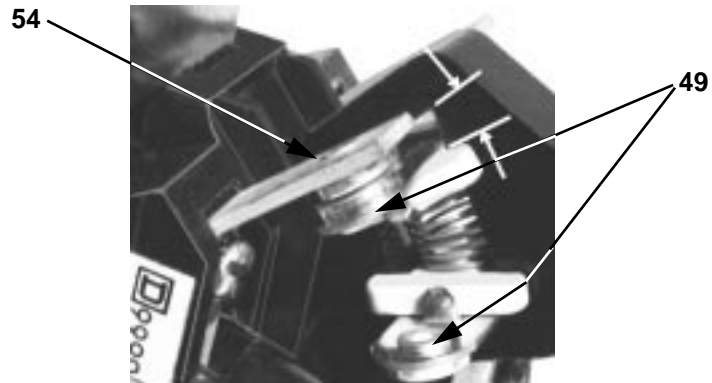

Figure 3: Electrical Interlock Contact Follow-Up
Refer to Figure 3 when adjusting the electrical interlock.
1. Remove all power. Visually verify that electrical interlock assembly (item 46) has proper follow-up (amount of spring compression). With new electrical interlock contacts, the moving contacts (item 49) should provide at least 1/16" follow-up on each stationary contact when the contact arm reaches its limit of travel, either completely closed or completely opened (see Figure 3).